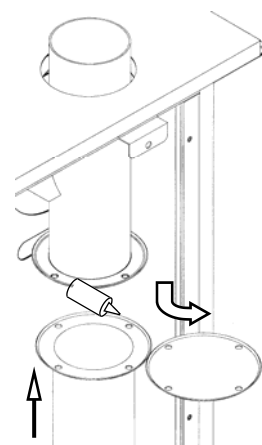
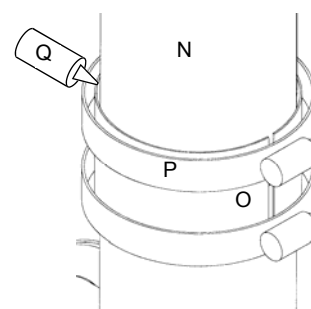

Figure A.7
Figure A.8
| I | Double stack side | 2 | Figure A.8 |
| N | Vent extension WA | 1 | Figure A.8 |
- 1) Remove legs / feet from top unit and place onto bottom unit (on stacking assembly) secure using 2 screws (K) in each corner of the unit (at front and back down from the sides).
- 2) Remove the RH double stack side (I).
- 4) Secure vent extension (N) with 3 screws (screw closest to oven is inaccessible), using sealant provided (Q) to ensure sealed connection. See Figure A.7.
- 5) Refit the RH double stack side (I).
- 7) Place connection sleeve (O) over join in vent using plenty of sealant (Q) between vent and sleeve, and secure using hose clamps (P). See Figure A.8.